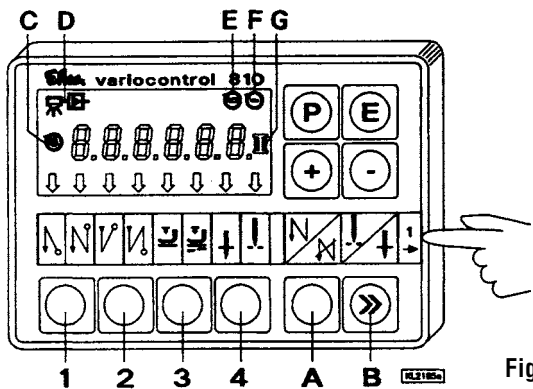

Fig. 16
8.1.3 Via control panel Efka V 810/V 820 (Fig. 16, 17)
8.2.1 By using stop motor Efka with panel V 810 (Fig 16)
8.2.1.1 Adjustment by means of buttons with fixed setting function (Fig. 16)
8.2.1.2 Setting by means of parameters (Fig. 16)